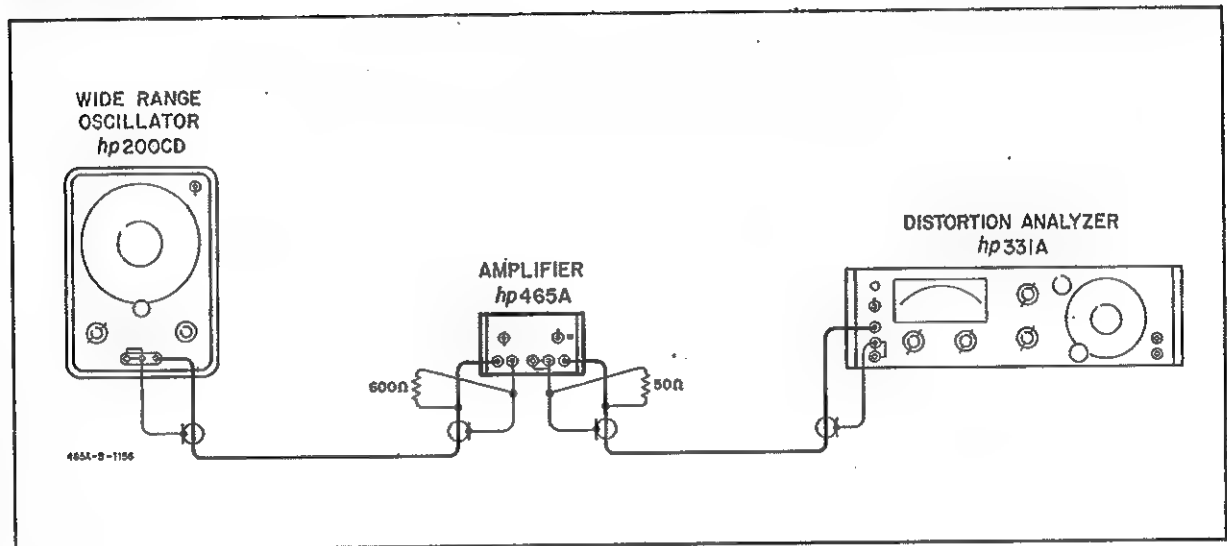

Figure 5-2. Distortion Check
- Figure 5-2 describes the recommended test arrangement. Set the 465A GAIN to 20 dB.